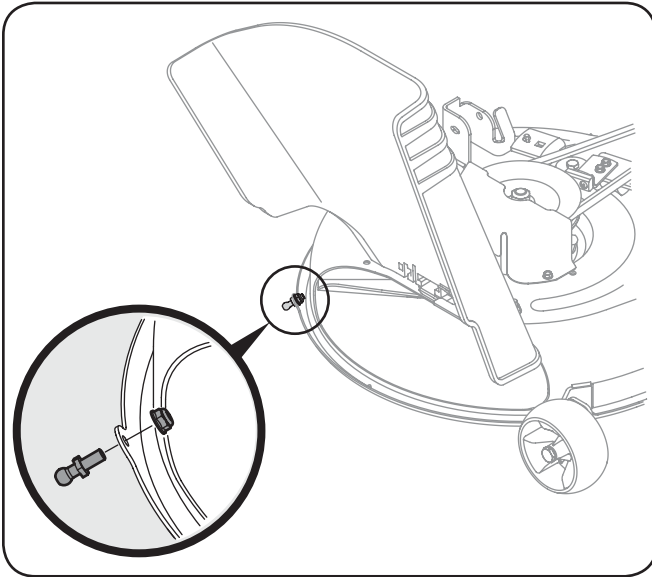

Figure 1-3
1. Secure the pin to the deck with the flange nut. See Fig. 1-3.